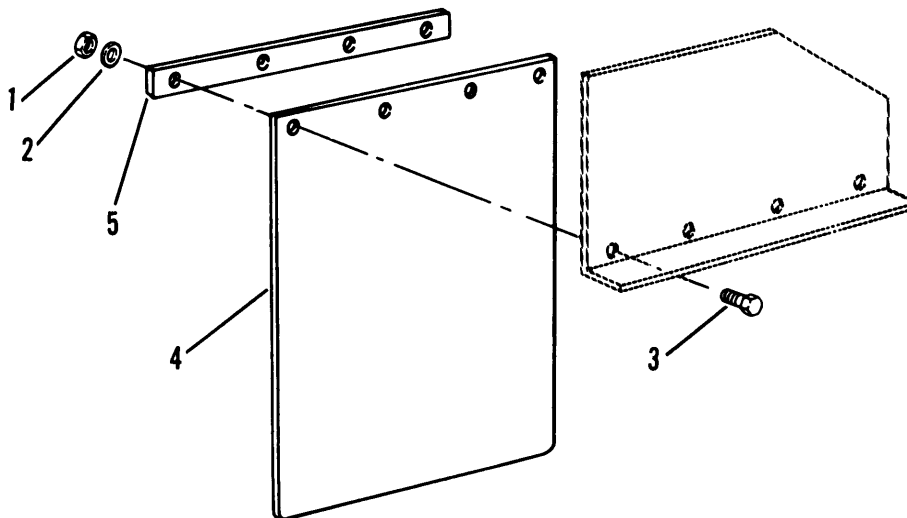

Figure 4-61. Mud Flap
- (1) Remove four nuts (1, fig. 4-61), washers (2) and screws (3) from mud flap (4).
- (2) Remove backing strip (5) and mud flap (4).
- (1) Position mud flap (4, fig. 4-61) and backing strip (5).
- (2) Secure mud flap (4) with four screws (3), washers (2) and nuts (1).